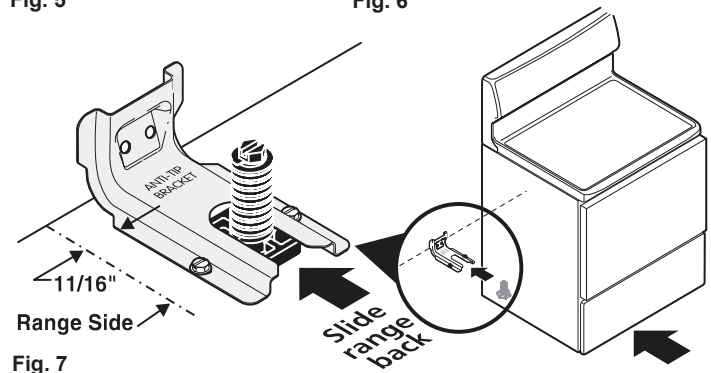

Fig. 7
**1c. Level and Position Range** - Level range by adjusting the (4) leveling legs with a wrench. **Note:** A minimum clearance of 1/8" is required between the bottom of the range and the leveling leg to allow room for the bracket. Use a spirit level to check your adjustments. Slide range back into position (See Fig. 7). Visually check that rear leveling leg is inserted into and fully secured by the Anti-Tip Bracket. For models with a Warmer Drawer or broiler compartment, grasp the top rear edge of the range and carefully attempt to tilt it forward.